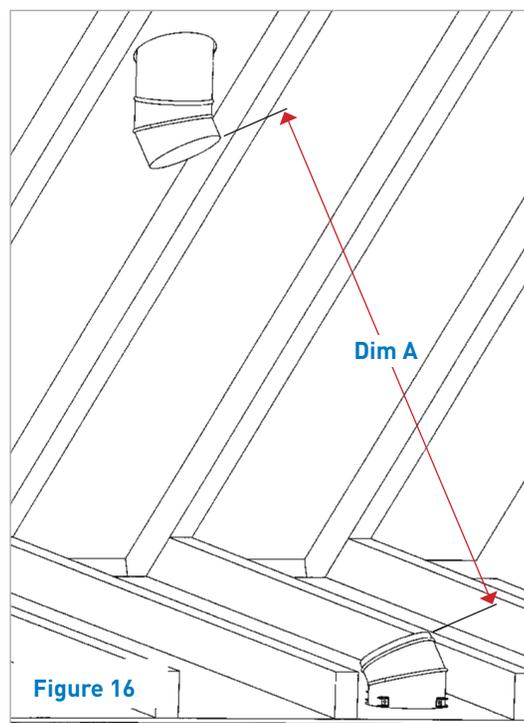

Figure 16
- To determine if you have enough sections of intermediate tube, measure the distance between the ends of the intermediate and bottom elbows. Each tube has an effective length of 570mm. Divide the measured distance (Dim A) in mm by 570 and then round up the result to the next whole number to calculate how many tubes are required. If you do not have enough, you will need to obtain additional tubes before continuing with the installation (Figure 16).